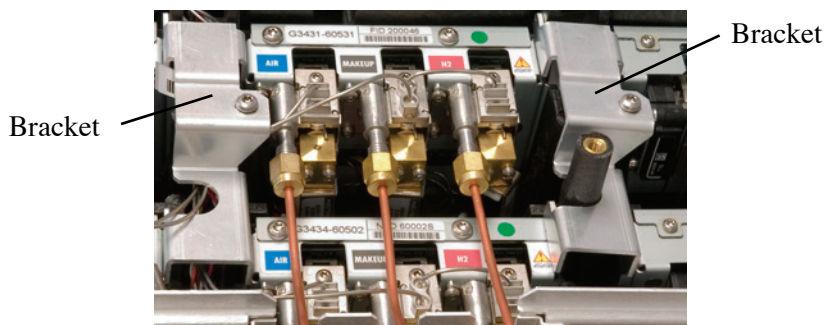

Figure 4.21. Locating the EPC Module Brackets
- a. Remove the EPC module bracket by loosening the captive screws and lifting off the brackets (Figure 4.21).